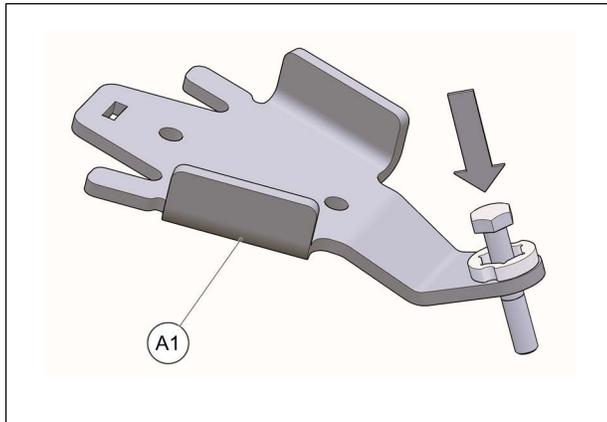

Fig. 16
4. Insert bolt in front anchor brackets (A1) as shown in Fig. 16